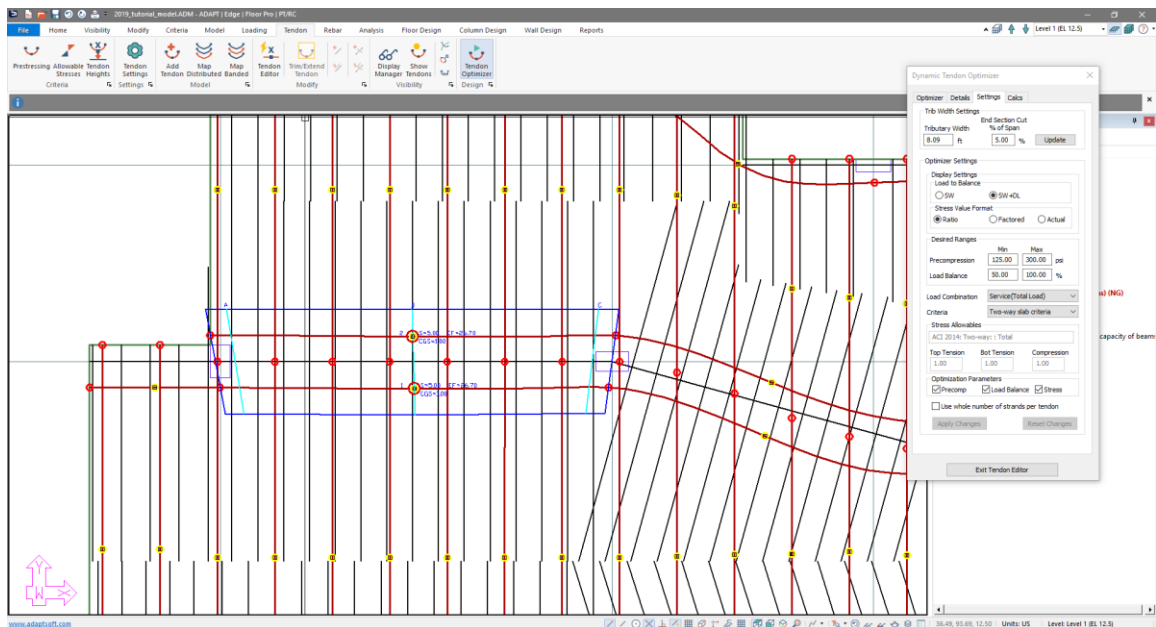

Figure 9-90
- Drag and select the two low points of this span for the banded tendons. The program will then create a tributary region (dark blue outline) and three design cuts (cyan color) to evaluate for the tendon optimization as shown in **FIGURE 9-90**. In addition, you can see the properties of the design section cuts in the *Dynamic Tendon Optimizer* window.
- The first thing we need to do when optimizing banded tendons is make sure that the optimizer design strips and design sections resemble as close as possible the design cuts from the support lines. As shown in **FIGURE 9-90** you can see that the strip is not as wide as our support line design section cuts.